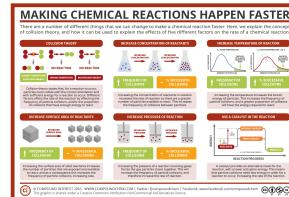

Figure 1: Factors
- Have the ability to list and rationalize the factors that affect the rates of reaction such as that shown in Figure 1.